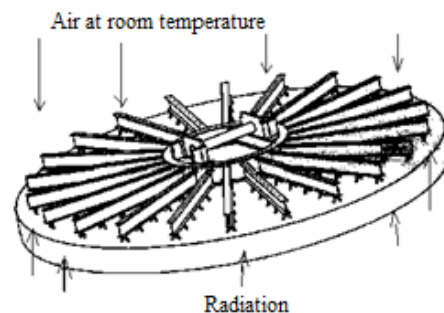

Fig.7: Ventilated metal structure – Natural convection
3. Anchors welded directly to a steel profile structure, with no sheet steel, allowing natural convection ventilation and preserving a solid, strong and light metal structure (fig.7).